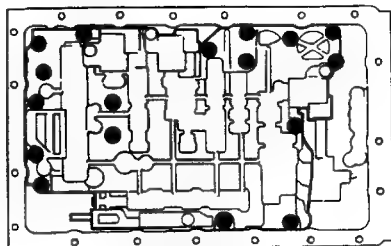

Fig. 14 Valve Body Bolt Locations
- (6) Remove valve body bolts. Locations for seventeen bolts are outlined in Figure 14.
- (5) Install valve body bolts (Fig. 14). Tighten bolts evenly to 10 N·m (7 ft-lbs) torque.